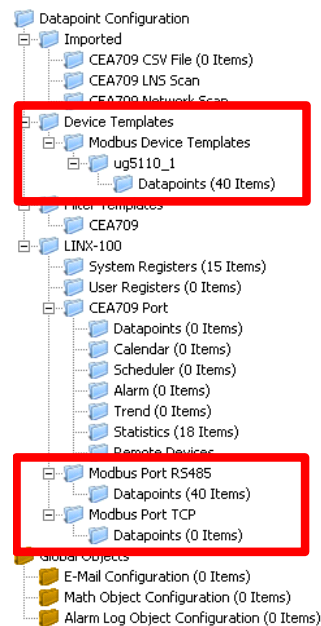

Figure 146 : Data Point Manager Dialog with Modbus folder list.
The Configurator uses a central concept to manage data points. The data point manager as shown in Figure 146 is used to select, create, edit and delete data points. The dialog is divided into three sections:
- The folder list (Figure 146),